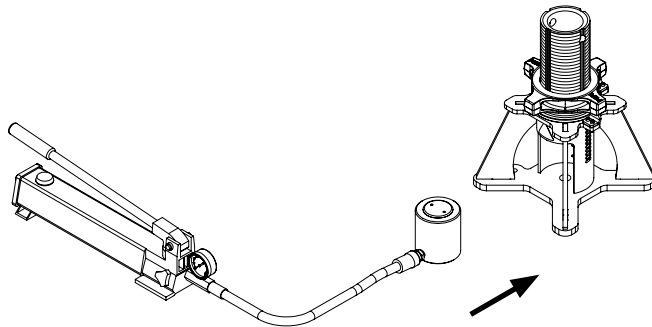

Fig. A5.01
- The pump valve is closed. (Fig. A5.01 + A5.02)